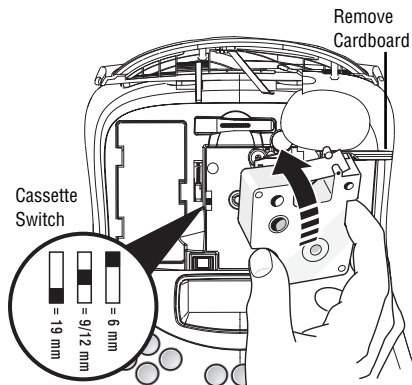

Figure 4
Remove the protective cardboard insert from between the print head and roller. See Figure 4.
- Set the cassette switch for the size of the tape cassette that you are inserting. See Figure 4.
- Insert the cassette with the tape and ribbon positioned between the print head and pinch roller. See Figure 4.